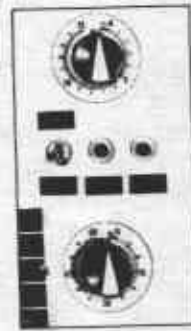

Fig. 1
- Step 2. A. Timer Models - Turn timer knob to the desired drying time. See fig. 1